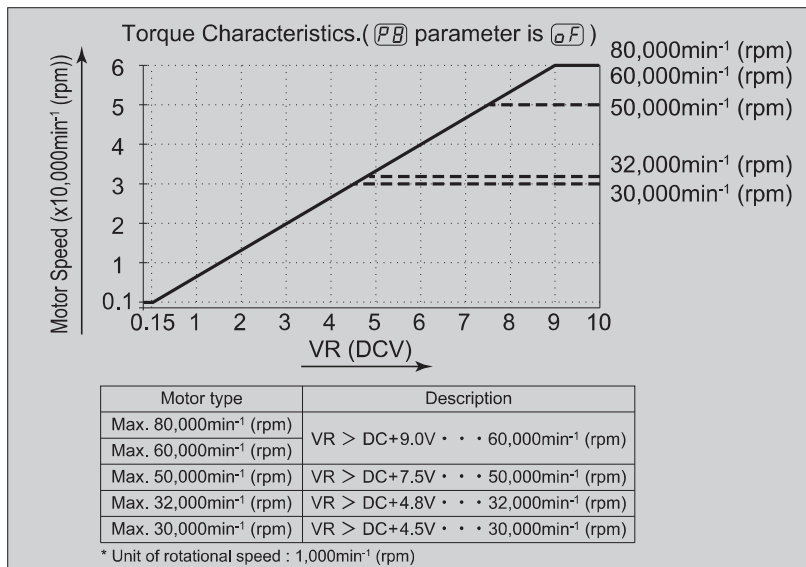
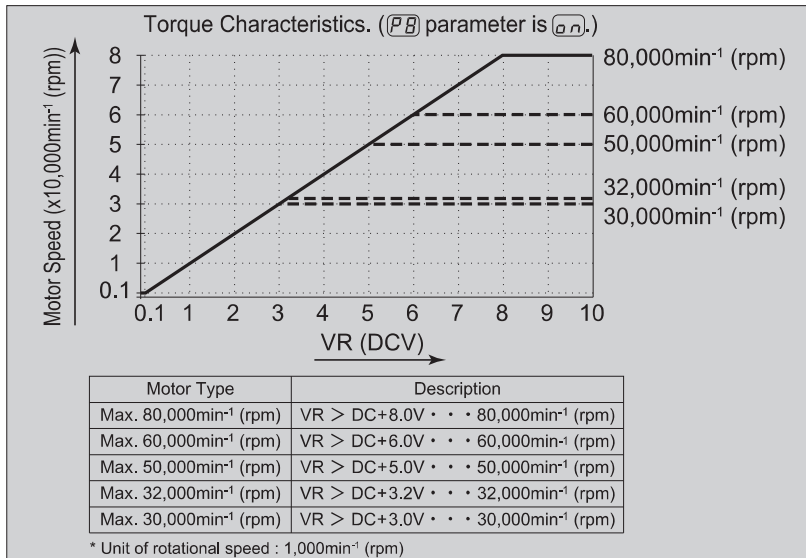

Fig. 45
Fig. 46
- The Fig. 45 are Characteristics of the VR and rotation speed by parameter **P8** set to **0f**. The Fig. 46 are Characteristics of the VR and rotation speed by parameter **P8** set to **0n**.